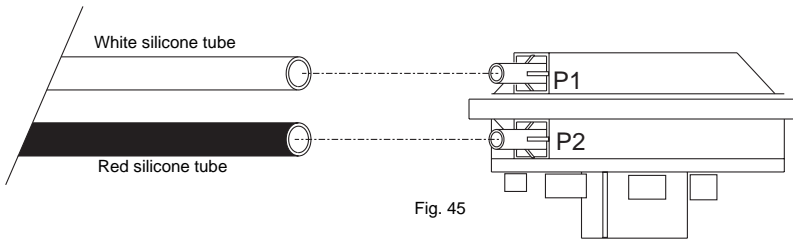

Fig. 45
- b) Remove the two screws securing the air collection plate (fig. 45), and withdraw the plate complete with the air pressure switch (Take care not to lose «P» clip).